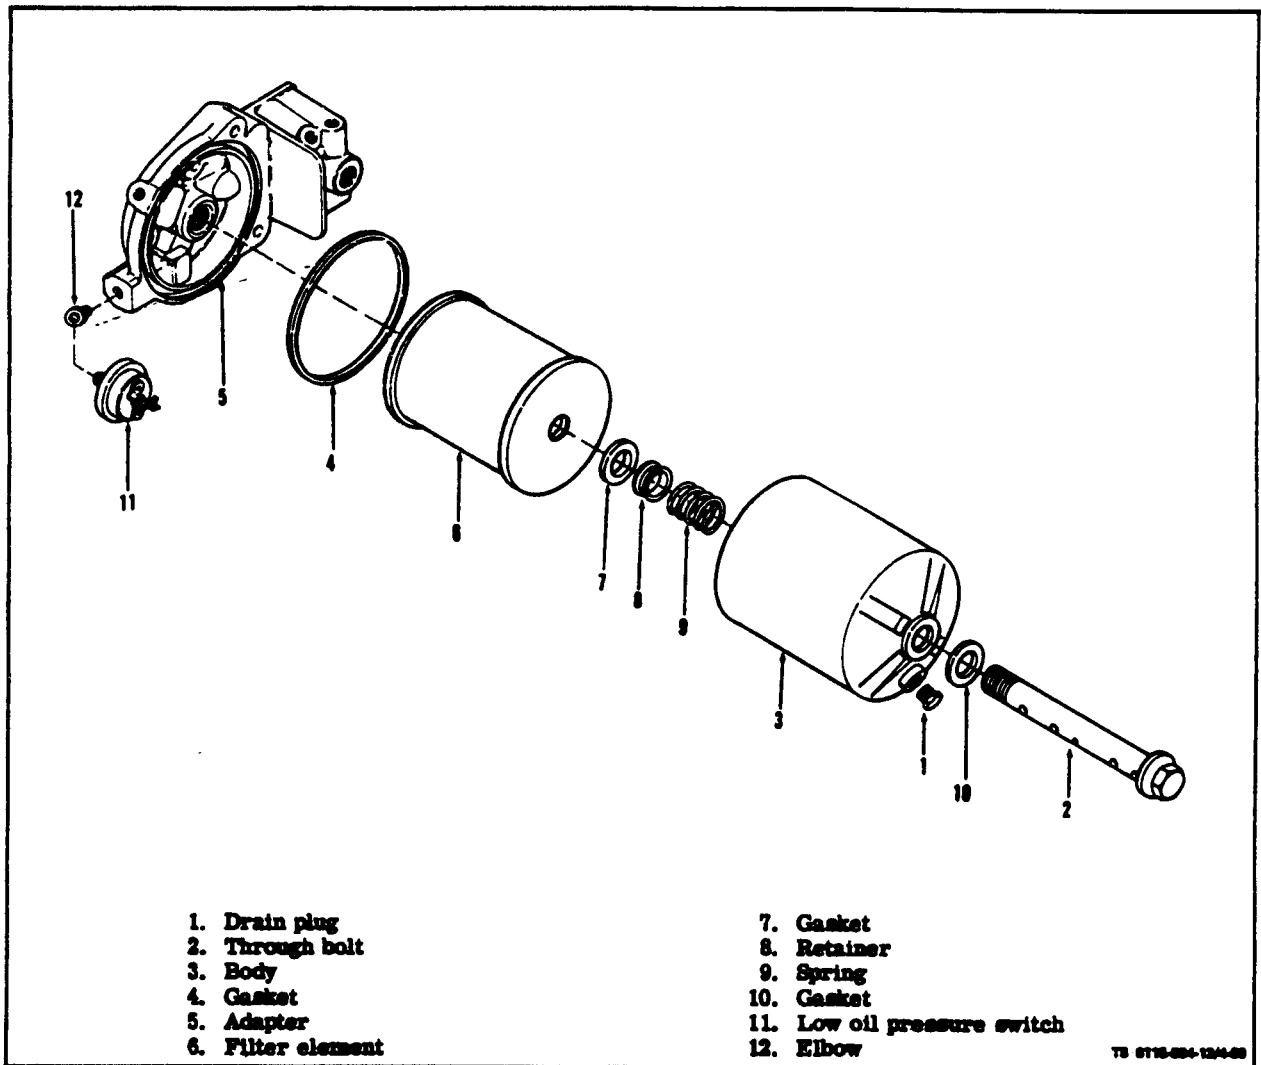

Figure 4-30. Oil Filter Assembly
a. Test on Equipment (see figure 4-30). Disconnect leads from terminals 1 and 2. With master switch in off position, use ohmmeter to check for continuity between terminals 1 and 2 of switch. If continuity is indicated, replace switch. Connect leads to switch terminals 1 and 2.
b. Removal. Disconnect leads from terminals 1 and 2. Use wrench on square portion at base of switch (11) and remove from adapter (5).
a. Service (see figure 4-30). Every 100 operating hours replace oil filter element. Clean inside of bowl while filter is removed. Replace defective hoses.
c. Replace. Clean filter mounting area in adapter (5) and inside of body (3). Install new element (6) in body (3). Install new gasket (4) in groove of adapter (5). Position body (3) (drain down) with element installed on adapter (6) and secure with through bolt (2). Tighten through bolt 10 to 15 ft-lb.